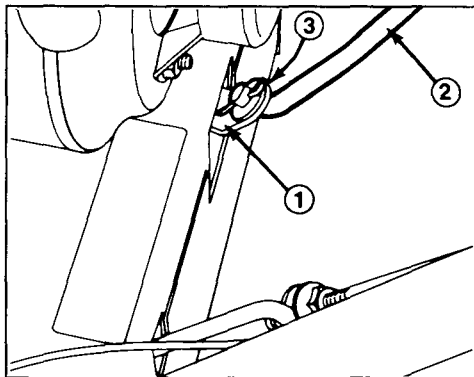
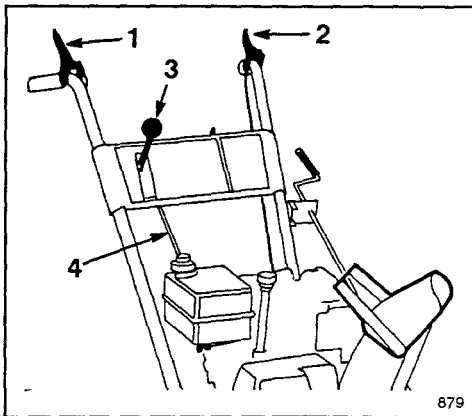

Figure 4
Figure 6
1. Pull speed selector arm (Fig. 4) to the fully "out" position and move speed selector (Fig. 6) on control
2. Install speed selector rod into selector arm, add one flat washer on the selector rod and secure with cotter pin (Fig. 4).
4. Adjust the two flange nuts up or down on the traction control rod until the distance between the top of the handgrip and the bottom of the traction control lever (Figs. 6 and 7) is approximately $4\frac{3}{8}$ inches. **This is a preliminary setting only.** Tighten the two flange nuts finger tight.
5. Move speed selector (Fig. 6) into third gear.
3. Check the distance between the top of the handgrip and the bottom of the auger control lever (Figs. 6 & 9). Distance should be approximately four inches. **This is a preliminary setting only.**